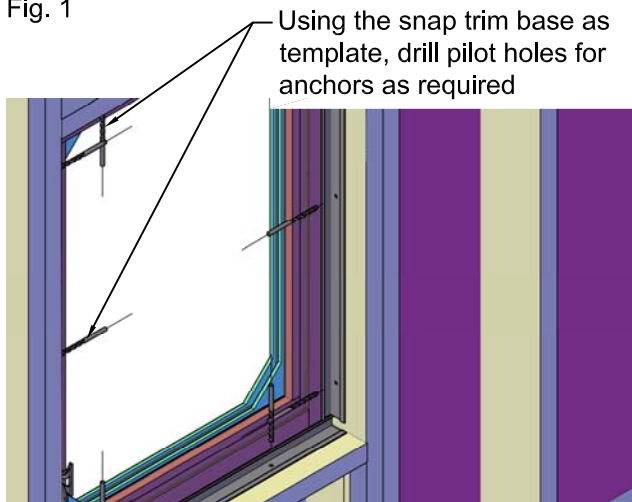

Fig. 3
3) WINCO furnishes the snap trim cut long & square. Determine the final length of the snap trim base and cut to size. The base does not have to be cut to exact dimension since it will be concealed by the snap on cover later. Lay out the anchor spacing for both the primary wind load anchors and the back anchors. Pre-drill the aluminum as required. The primary anchor secures the snap trim base to the wall substrate, the back anchor connects the window and the snap trim base. The back anchor is often a self drilling screw. Since the geometry of the load path and the fastener diameter differ between the primary anchor and the back anchor, the spacing of the two anchor types will differ in most installations. Using the snap trim base as template, drill fastener clearance holes as required. See Fig. 3